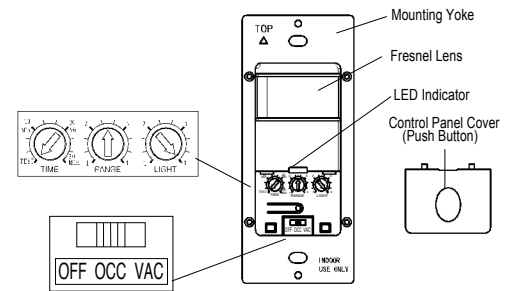

Figure 4
9. Locate the adjustment knobs on the control panel to perform test. and adjustments. (Illustrated as Figure 4.)
Ambient Light Dial: The ambient light setting is adjusted with the Ambient Light dial (refer to figure 4). Turning the Light Dial fully counter clockwise (CW), will keep lights OFF, when the motion is detected. All other settings will cause the lights to turn ON only when the light level is less than the setting.